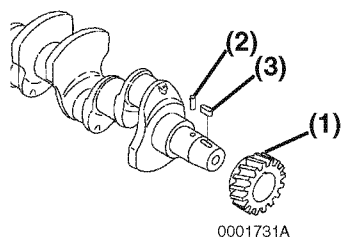

Figure 6-110
- If necessary, remove the crankshaft gear (Figure 6-110, (1)), parallel pin (Figure 6-110, (2)) and key (Figure 6-110, (3)). If using a gear puller, be careful not to damage the threads in the end of the crankshaft.